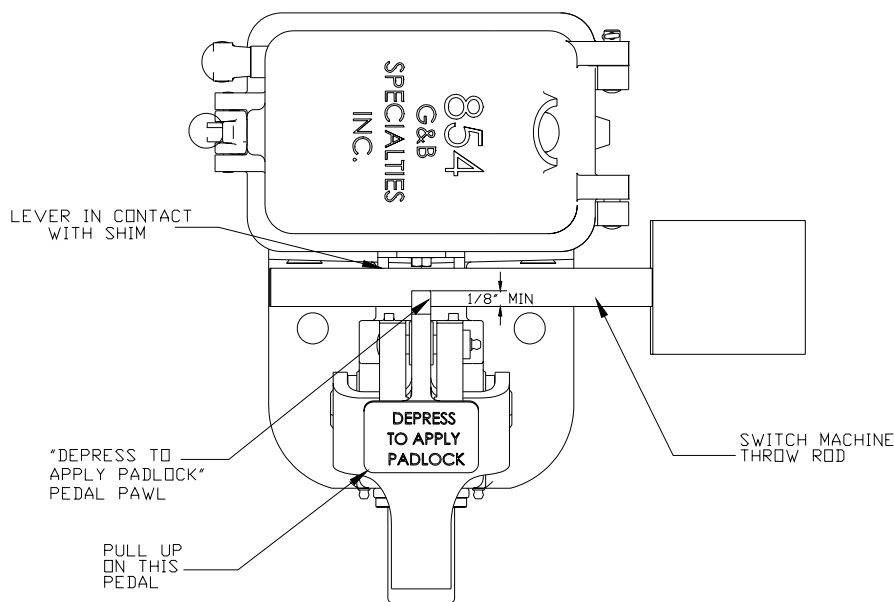

Figure 5-1. Model 854 Switch Stand Lock
3. The “Depress to Apply” pedal pawl should prevent the switch machine throw rod from being removed from the machine lock by a minimum of 1/8-inch (See Figure 5-1), with the switch stand operating lever driven toward the shimmed side of its opening.